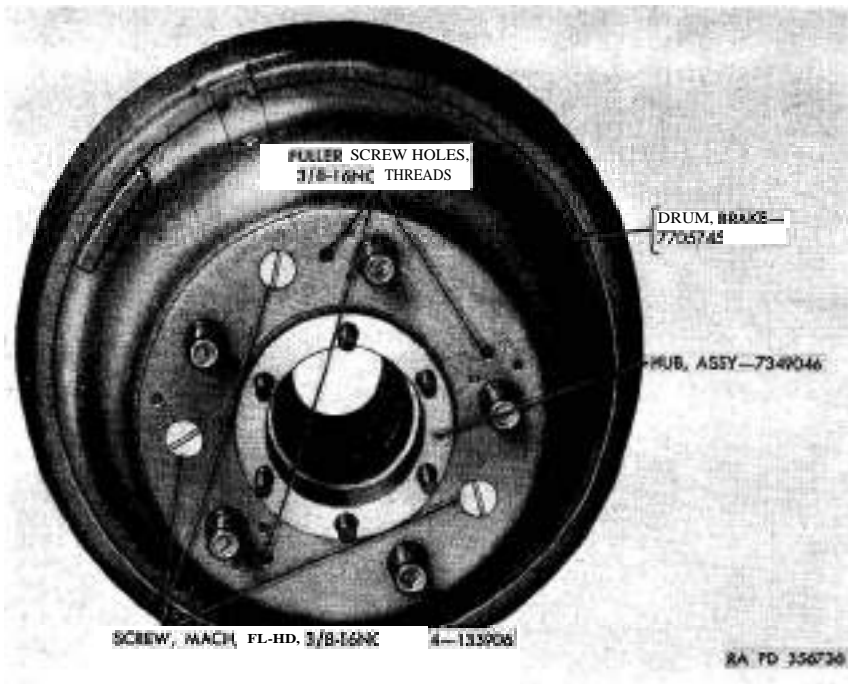

Figure 52. Brake drum with hub.
- (1) Insert a blunt chisel in each of the three machine screw slots (fig. 52) and strike the chisel a few sharp blows with a medium size hammer to loosen screws. Remove screws.
- (2) Install three $\frac{3}{8}$ -16NC x $1\frac{1}{2}$ cap screws in the three puller screw holes (fig. 52) of each brake drum. Pull brake drums from hubs by tightening screws. If the brake drums are rusted to the hub flanges, shock the puller screws with a hammer as they are tightened.
d. Install Brake Drums. Coat flange of hub assemblies with water pump grease to prevent corrosion. Position the brake drums on hubs so that the attaching screw holes are in alignment. Install and tighten $\frac{3}{8}$ –16NC x 1 1/4 flat-head machine screws (fig. 52).